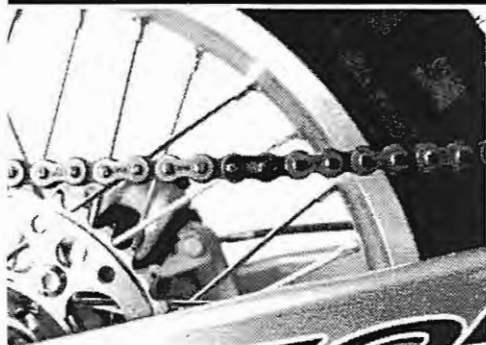

Figure 4.25
**Caution:** When replacing the drive chain, point the open end of the master link towards the rear of the motorcycle when viewing the chain on top of the swingarm. This will ensure that the masterlink will not be unfastened if it touches part of the motorcycle or some terrain. (Figure 4.25)